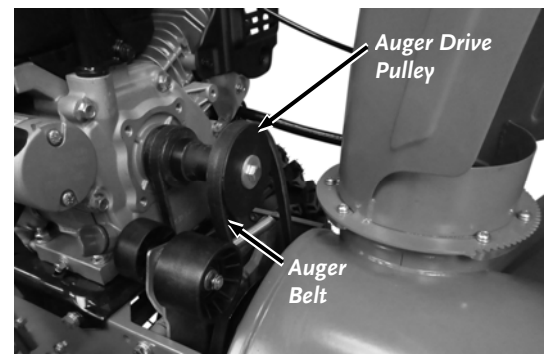

Figure 57
4. Roll the Auger Belt off the front of the Engine Drive Pulley to make room for removal of the Traction Drive Belt (**Figure 57**).